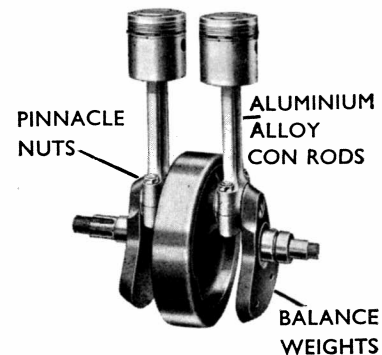

Fig. 2.
Both pistons rise and fall together, giving one power stroke for each crankshaft revolution and even spacing of the induction and exhaust strokes. The remarkable absence of engine vibration is obtained by balancing the pistons and connecting rods by counterweights integral with the forged two throw crankshafts and similar weights cast integral with the permanently mounted central flywheel. (See Fig. 2.)
**Aluminium alloy pistons** are carried on forged light alloy connecting rods by full floating gudgeon pins, the small ends of the rods are bushed and the large ends split and fitted with replaceable white metal half bushes or liners. (See Fig. 2.) The connecting rod cap is secured to the rod by two bolts and nuts—the nuts tighten against the rod and are accessible from above after the cylinder block has been removed, so that, if ever necessary, a connecting rod bearing can be renewed without further dismantling of the engine.